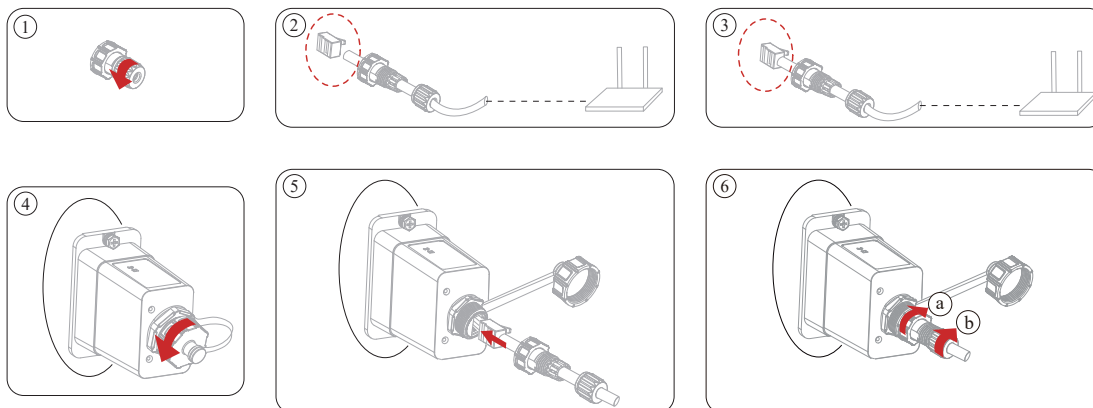

Figure 13d: Insert the network cable
D. Take the waterproof connector out of the package and prepare the network cable with network. Insert the network cable. (Figure 13d)